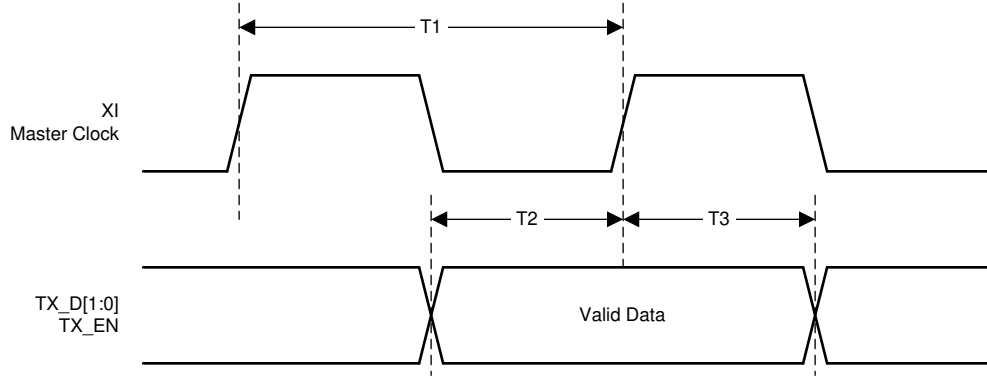

图 7-9. RMII Transmit Timing
- (1) Ensured by production test, characterization or design.
(2) See 图 7-9.